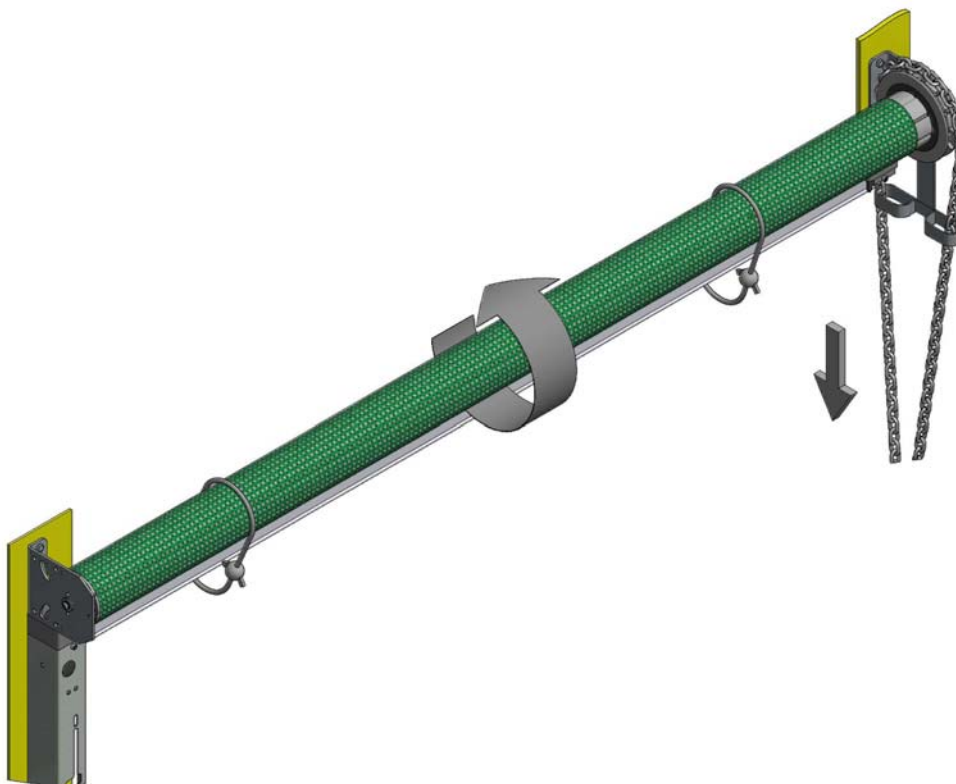

Figure 11, Tensioning of Spring
10. Pre-tension the spring mechanism by rotating the roller assembly in the direction shown in Figure 11, this is done by pulling down on the inner chain as shown. The number of pre-tension turns is given in the table below. When the required number of turns has been reached, lock the operating chain into the chain tensioner.